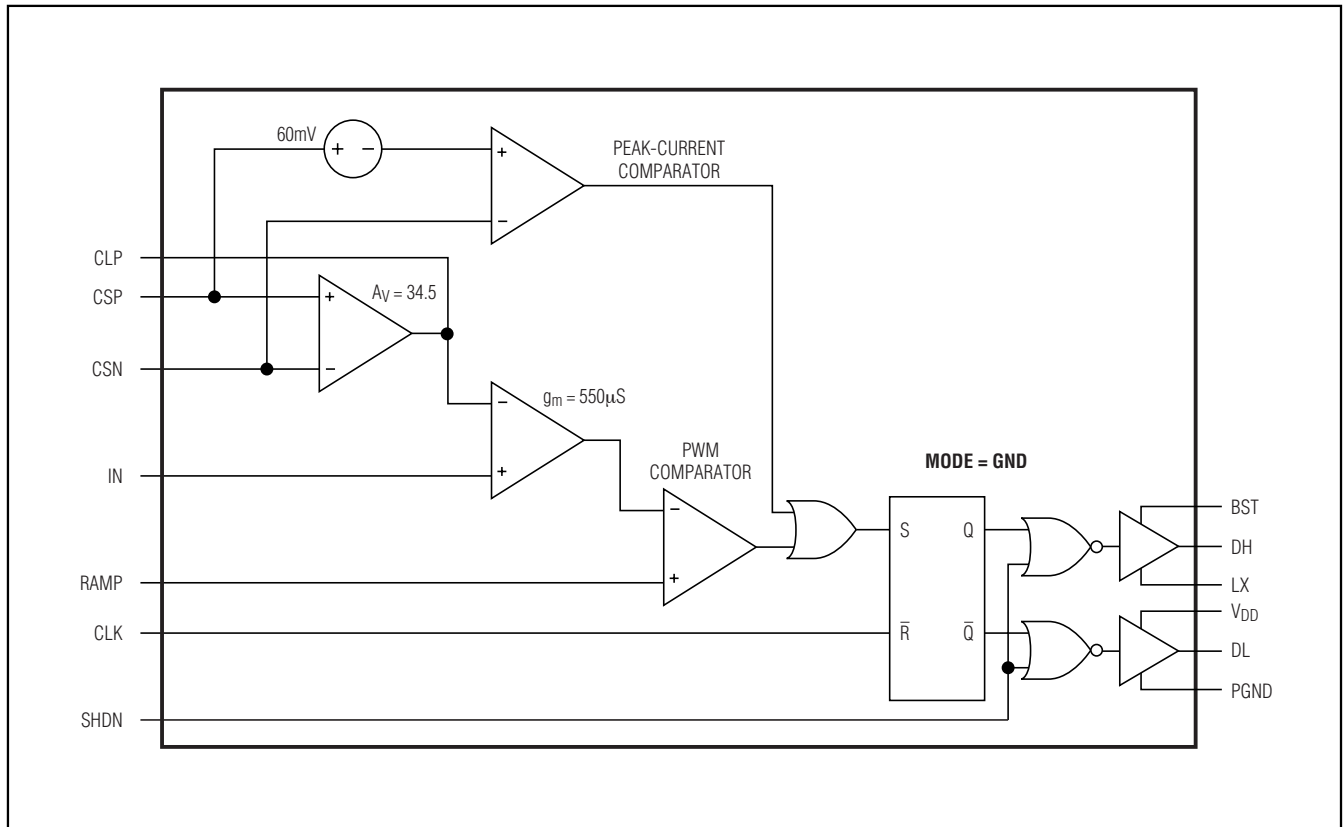

Figure 3. MAX16821A/MAX16821B/MAX16821C Phase Circuit
The peak-current comparator provides a path for fast cycle-by-cycle current limit during extreme fault conditions, such as an inductor malfunction (Figure 3). Note the average current-limit threshold of 27.5mV still limits the output current during short-circuit conditions. To prevent inductor saturation, select an inductor with a saturation current specification greater than the average current limit. The 60mV threshold for triggering the peak-current limit is twice the full-scale average current-limit voltage threshold. The peak-current comparator has only a 260ns delay.
$2V_p$ -p ramp signal. At the start of each clock cycle, an R-S flip-flop resets and the high-side driver (DH) turns on if MODE is connected to SGND, and DL turns on if MODE is connected to  $V_{CC}$ . The comparator sets the flip-flop as soon as the ramp signal exceeds the CLP voltage, thus terminating the ON cycle. See Figure 3.